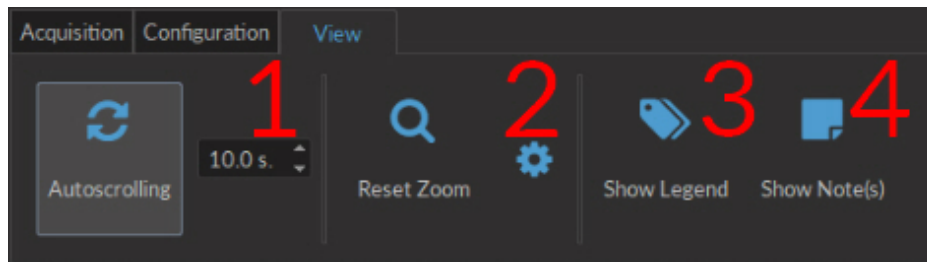
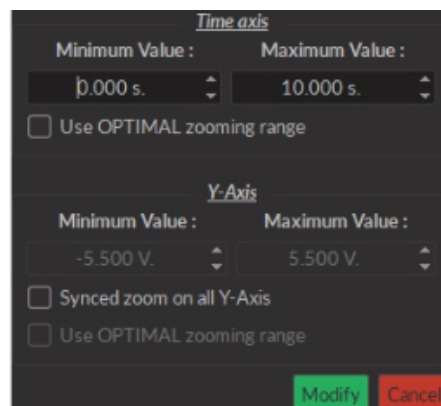

Figure 3.31: View Tab
Figure 3.32: Zooming Menu Window
The **View Tab** (Fig. 3.31) is used to modify the presentation of graphs in the **Acquisition view**.
1. The **Autoscrolling** button (Fig. 3.31), when clicked, makes the graphs scroll as new data appears. The duration (in seconds) kept on display is defined in the box beside the button.
2. The **Reset Zoom** button (Fig. 3.31) sets the graph zoom to a pre-defined value. This value is defined using the **Zooming menu** (Fig. 3.32), accessed using the **Gear** button.
3. The **Show Legend** button (Fig. 3.31) will open the **Legend** window (Fig. 3.33). This window display each configured **Channel**, as well as its **Name**, its **Channel Mode** and **Trigger Mode** and **Trigger Source** if applicable. Selecting the button while a window is open will close the window.
4. The **Show Notes** button (Fig. 3.31) will open the **Note Viewer** window (Fig. 3.34). Selecting the button while a window is open will close the window.